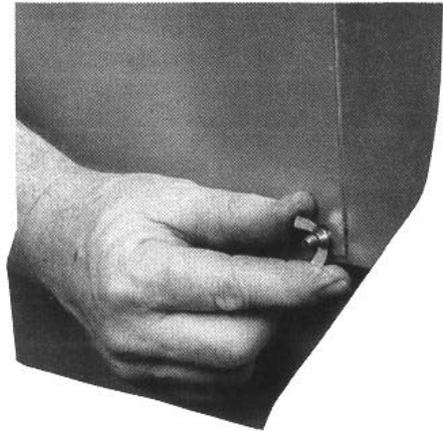

Figure 22: Securing Draft Hood to Canopy
3. Secure Rear Draft Hood to Canopy with wing nuts provided. See Figure 22.